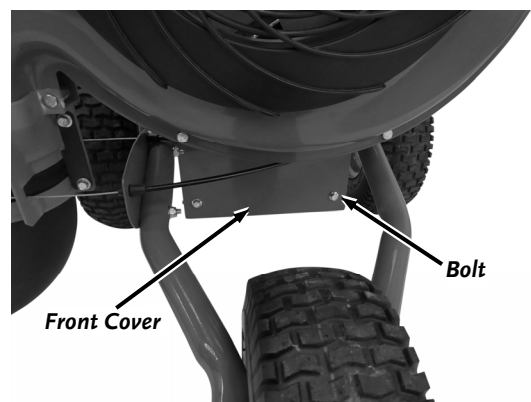

Figure 19
2. Remove the two Bolts that secure the Front Cover using a 3/8" Wrench and remove the Cover (**Figure 19**).
6. Install the Front Cover with the top lip facing forward (**Figure 19**).